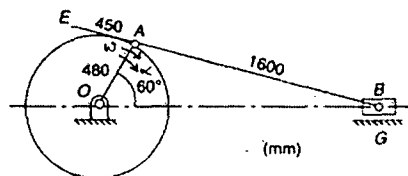

Figure 3
- 13b A shaft of diameter 240 mm carries a thrust load of 120 kN and runs at 120 rpm. It has a number of integral collars, all of diameter 360 mm. If allowed pressure is 400 kN/m² and coefficient of friction is 0.06, determine the power absorbed by friction and the number of collars required assuming uniform pressure condition. (16)
- 14a In the inverted slider crank shown in *Figure.3*, when the crank angle AOB = 60°, the angular velocity and acceleration of the crank are measured to be 1 rad/s clockwise and 1 rad/s² (clockwise) respectively. Point E is an extension of BA, where EA = 450 mm. [Take velocity scale as 1mm = 480 mm/s and acceleration scale as 1mm = 240 mm/s²]